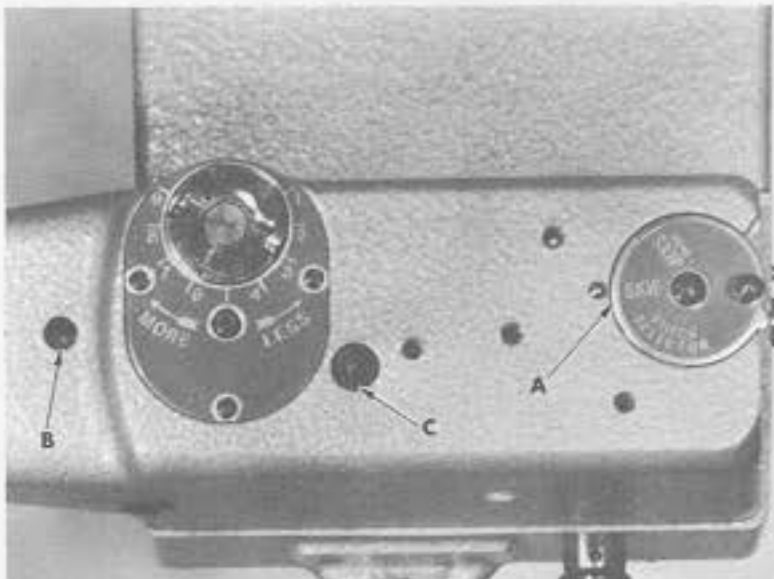
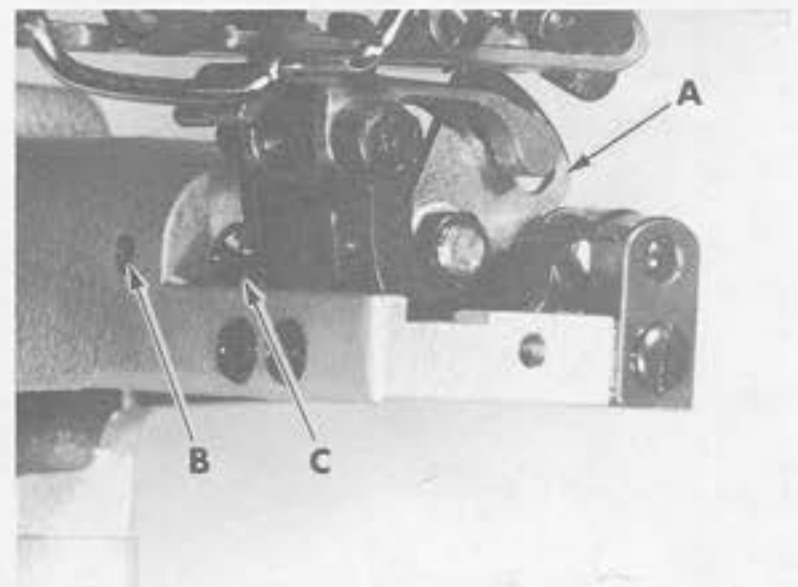
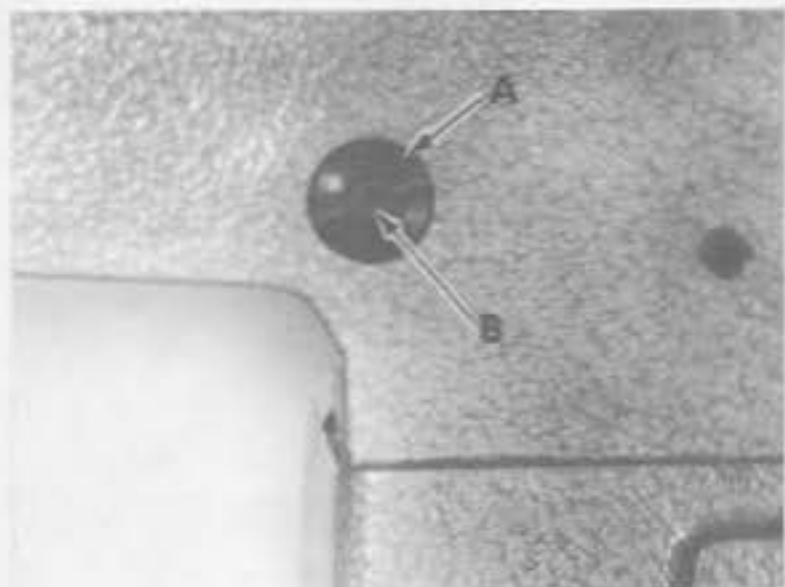
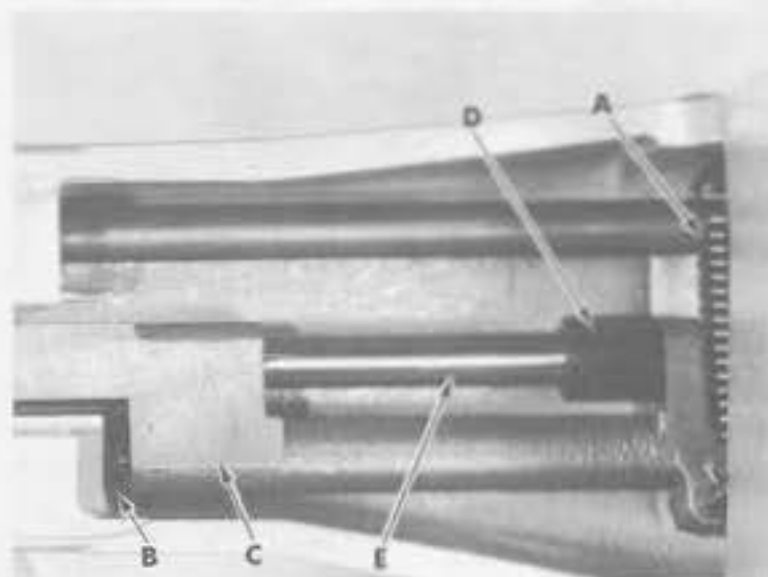

Fig. 14
Fig. 15
Fig. 16
Fig. 17
On Style N150-2, set the skip stitch selector (A, Fig. 14) in the skip stitch position, as shown in Fig. 14. Then proceed as follows for all machine Styles. Ridge former disc (A, Fig. 15) must be centered in the cloth opening of presser foot with no shake (left or right).
If adjustment is required, loosen set screw (B) which locks pivot bearing (C) and release tension on cradle spring (A, Fig. 17) by turning nut (A, Fig. 16) counterclockwise. Adjust pivot bearing (C, Fig. 15) (B, Fig. 17) as required to remove shake, but ridge former shaft cradle (C, Fig. 17) MUST NOT BIND. Tighten set screw (B, Fig. 15) securely. Apply pressure on cradle spring (A, Fig. 17) by turning nut (A, Fig. 16) clockwise until screw (B) is flush with screwdriver slots in nut.
If ridge former disc is not centered in cloth opening of presser foot, loosen screw (B, Fig. 14) in collar (D, Fig. 17) and screw (C, Fig. 14) in ridge former shaft lever, allowing ridge former shaft (E, Fig. 17) to be moved laterally to position ridge former disc as required. While holding ridge former disc in position, thrust collar (D) against ridge former shaft cradle (C) and tighten screw (B, Fig. 14) securely. Temporarily tighten screw (C) in ridge former shaft lever.
Loosen screw (C, Fig. 14) and set ridge former disc the required distance past needle as viewed in (Fig. 19). Hold ridge former disc in this position and to the right while tightening screw (B) securely.